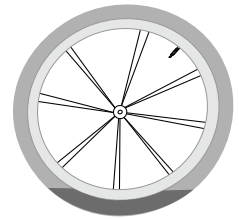

Figure 2. When wheel stands still, SealSafe puddles at bottom of tire
- + Sidewall punctures and pinch-flats do not occur on the outer-most portion of the tire, so they might not seal immediately. In this case, allow the SealSafe to puddle at the bottom of the tube (Figure 2) and then slowly rotate the wheel to bathe the sidewall with SealSafe.